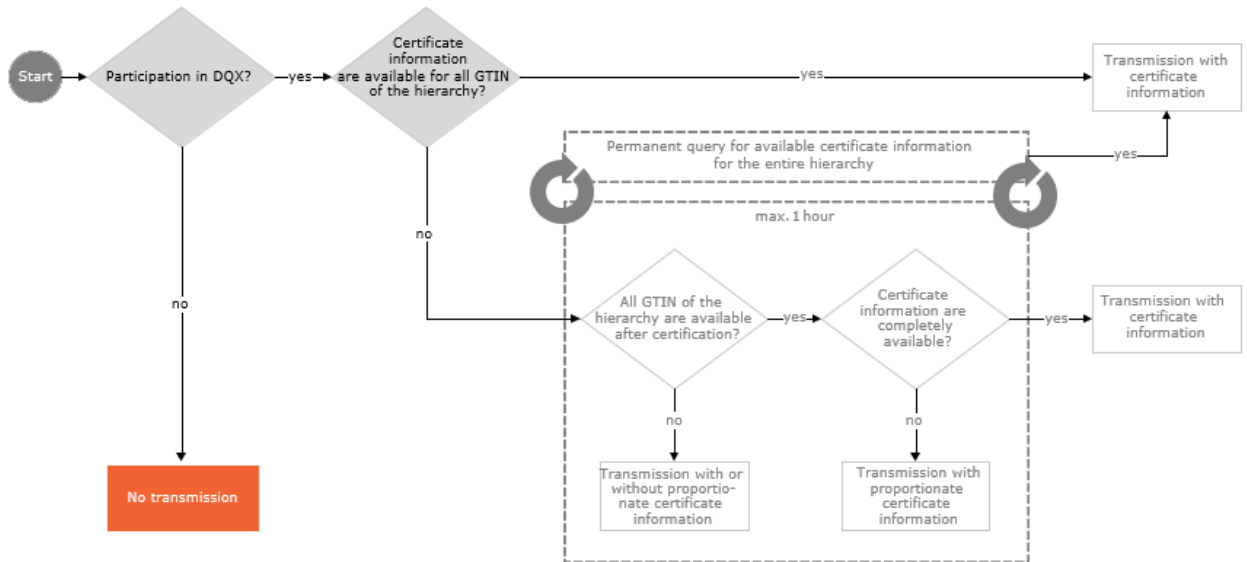
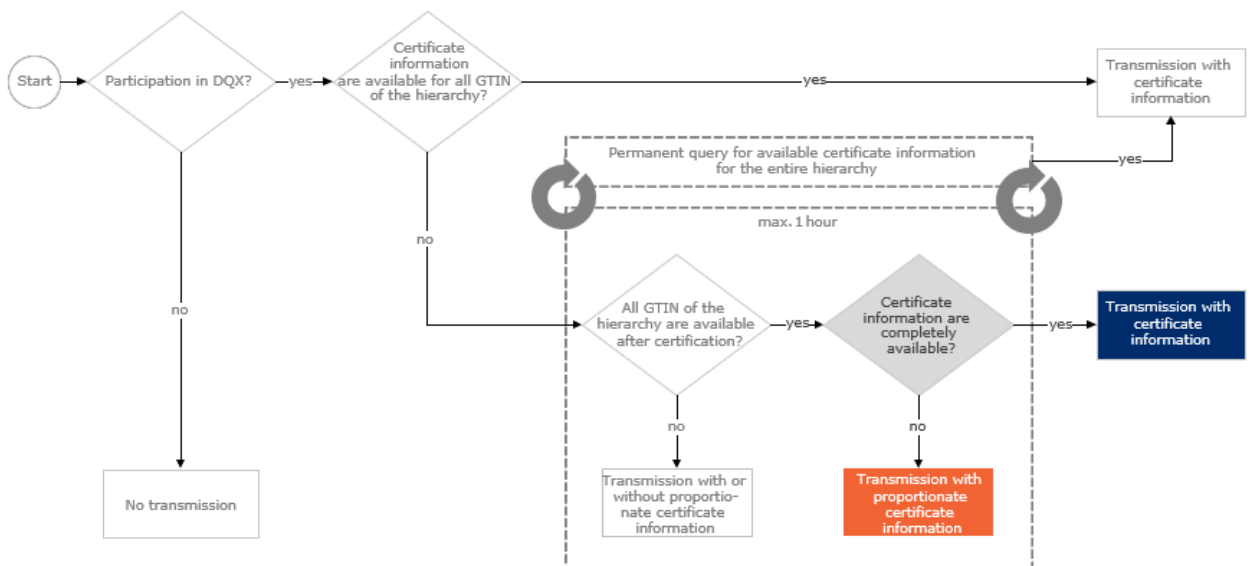

Figure 4: Detail 1 Basic functionality of the transmission (transmission logic)
Figure 8: Detail 5 Basic functionality of the transmission (transmission logic)
**The steps of the transmission logic (highlighted in color in fig. 4 to fig. 8 respectively) of packaging hierarchies within the framework of GS1 DQX are:**